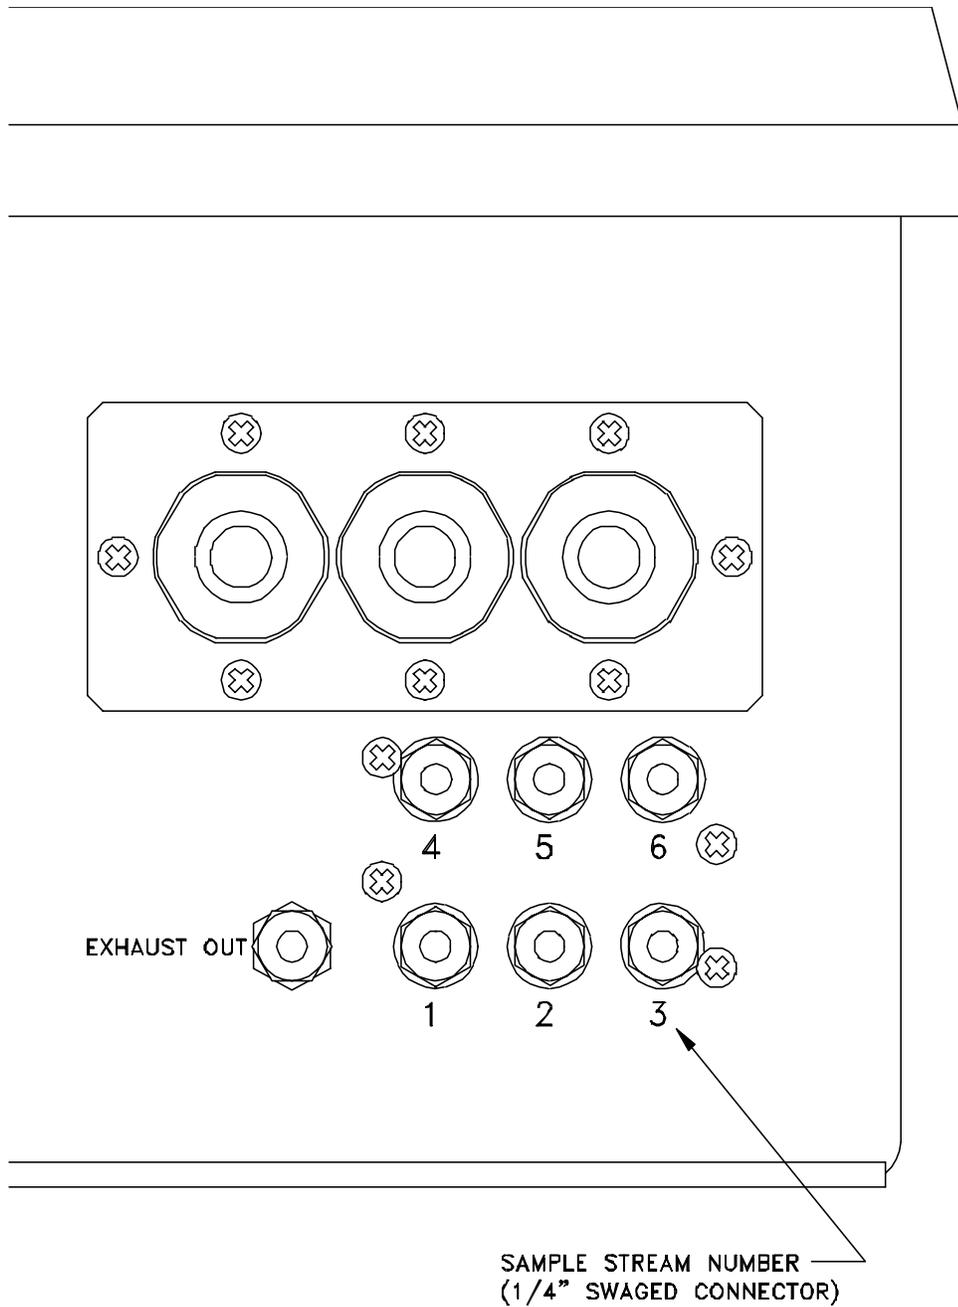

FIGURE 1.5 – NEMA 4X PNEUMATIC CONNECTIONS
7. Connect 1/4" sample inlet line(s) to the sample inlet fitting(s) shown in Figure 1.5.
8. Connect a 1/4" exhaust line to the fitting shown in Figure 1.5.